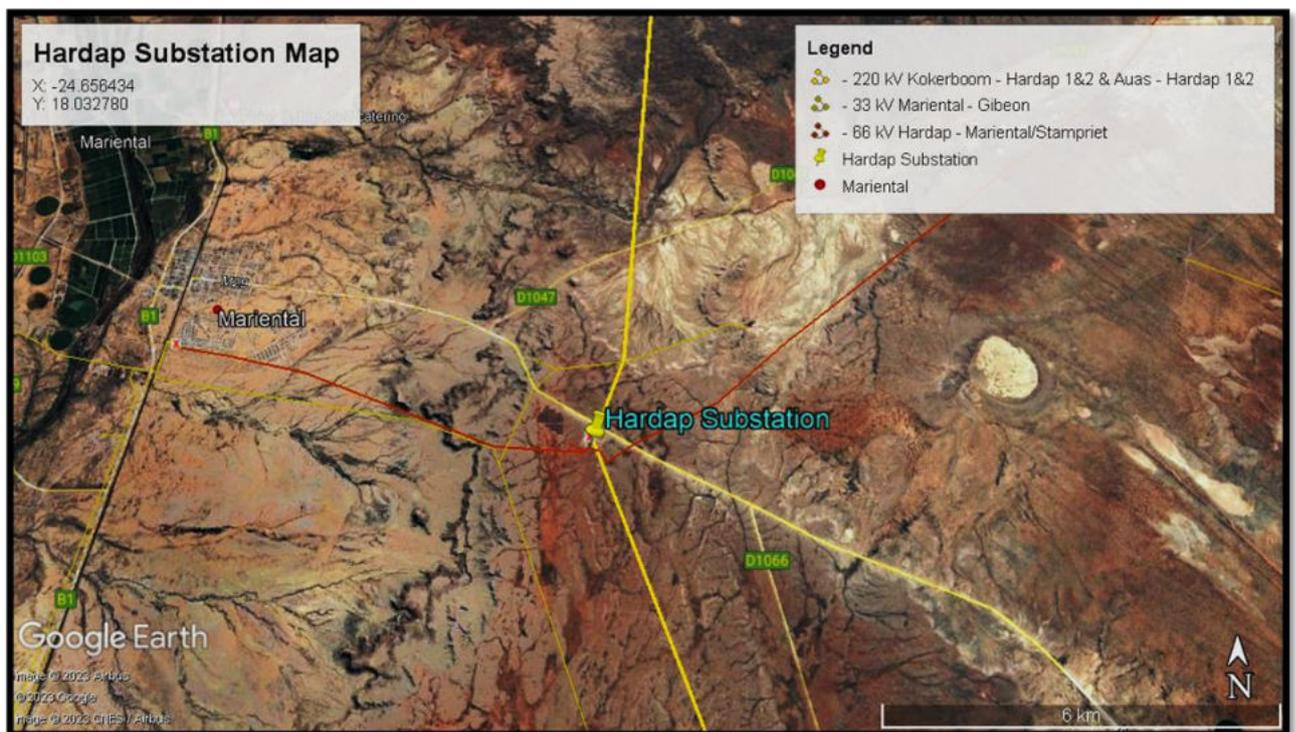

Figure 1: Locality map showing Hardap substation
The substation consists of medium and high voltage yards as well as control room and offices. The lines connecting to the substation are: 220kV Kokerboom – Hardap 1 & 2; 220kV Auas – Hardap 1 & 2; 66 kV Hardap – Stampriet and 66kV Hardap – Mariental. In addition, there are two Solar PV plants (10MW GREENAM Hardap and 37MW Alten Solar Photovoltaic (PV) Plants) connecting to the Hardap Substation. The substation covers a footprint of about 30 397m². Figure 1 below shows the locality map for the Hardap Substation.